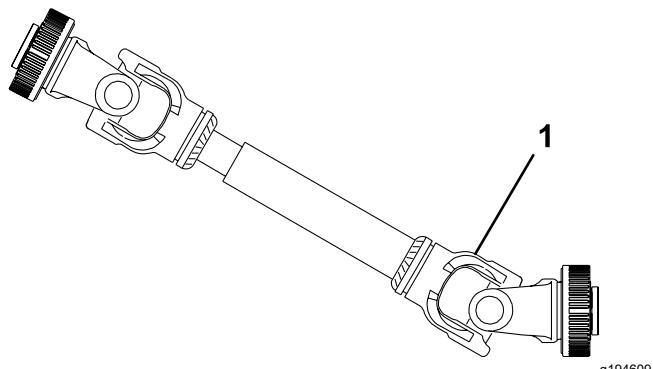

Figure 25
**Important:** When connecting the PTO, ensure that the machine is not lifted higher than is necessary. Lifting the machine too high causes the PTO driveshaft knuckles to break (Figure 25). The PTO can operate up to an angle of 25°, but can never exceed a 35° angle when the machine is at its highest position, or severe shaft damage may occur.